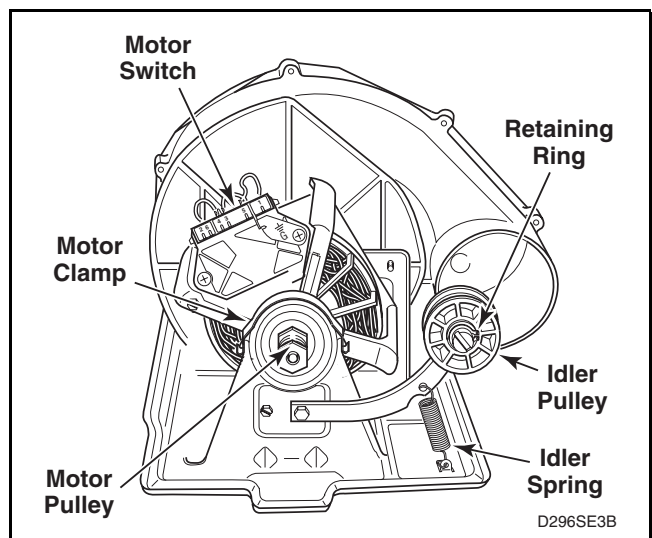

Figure 26
Refer to *Figure 26* for motor and idler pulley removal.
- (2) Pry two motor clamps off motor mounting bracket with screwdriver, then lift motor out of mounting bracket. Refer to *Figure 26*.